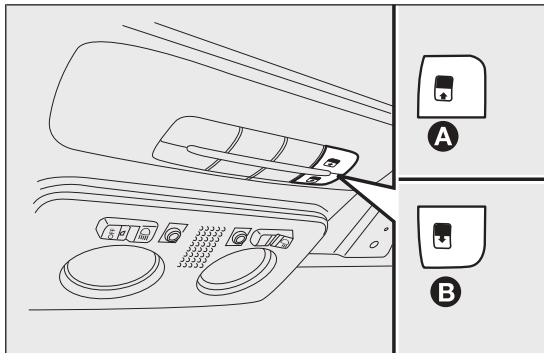

fig. 66
To close them, carry out the procedure in reverse. The sun roof can be operated only with the ignition key turned to MAR-ON. The controls A and B fig. 66 on the trim next to the front roof light operate the sun roof opening/closing functions.
Press and hold down button B fig. 66. The front glass panel will move into the spoiler position; press button B once again and hold down for more than half a second to automatically move the sun roof to an intermediate position (“Comfort” position).
With the roof in the fully open position, press button A fig. 66 and, if the button is operated for more than half a second, the front roof glass with automatically assume the intermediate position (“Comfort” position).
- press button A fig. 66 until the roof is completely closed. Release the button;